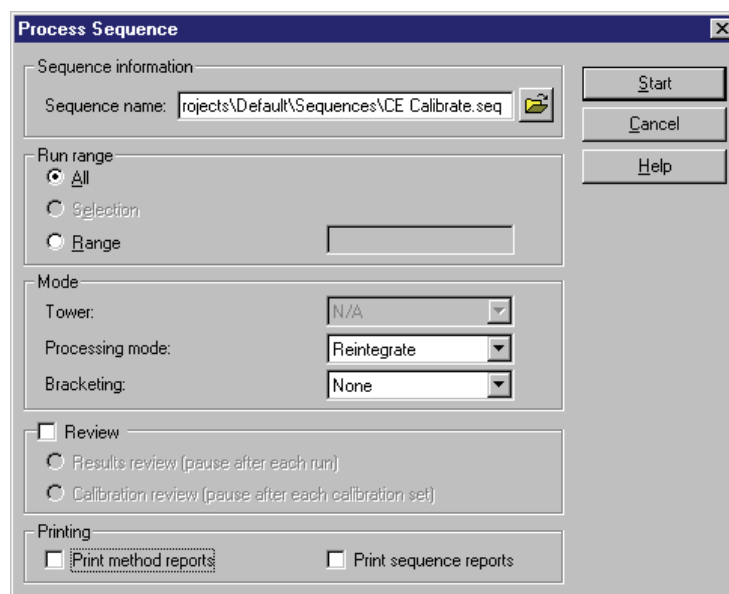

Figure 8.5 Process Sequence dialog
1. Select **Process** from the Sequence menu. The dialog in Figure 8.5 will appear.
5. Instead of reprocessing the entire sequence, click on the **Range** button in the **Process Sequence** dialog (Figure 8.5) and enter 6 as the line to be run.